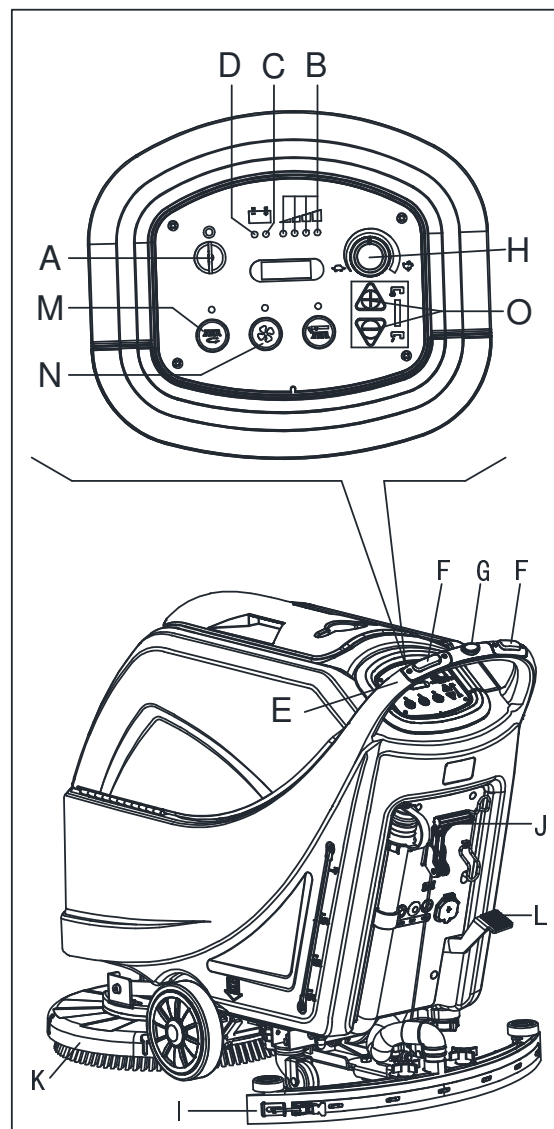

Figure 8
2. Insert the ignition key (A, Figure 8) and turn it to "I". Check that the green warning light (B) turns on (charged battery). If the yellow (C) or red warning light (D) turns on, turn the ignition key back to "0" and charge the batteries (see the procedure in Maintenance chapter).
- By pushing it with the hands on the handlebar (E) (only for machine without traction).
- By pushing it with the hands on the handlebar (E) and pressing the switch (F) to move forward, or pressing the switch (F) together with the switch (G) to move backward (only for machine with traction). The forward speed can be adjusted with the adjuster (H).
4. Lower the squeegee (I) with the lever (J).
5. Lower the brush/pad-holder deck (K) by lifting the pedal (L).
6. Press the brush/pad-holder switch (M) and the vacuum system switch (N).
7. Press the washing water flow control switches (O) as necessary, depending on the type of cleaning to be performed.
- (only for machine without traction) by pushing the machine with the hands on the handlebar (E) and pressing the switch (F).
- (only for machine with traction) by pushing the machine with the hands on the handlebar (E) and by pressing the switch (F). If necessary, the forward speed can be adjusted with the adjuster (H).
2. While keeping both hands on the handlebar press the safety switch (F, Figure 8), then manoeuvre the machine and start scrubbing/drying the floor.